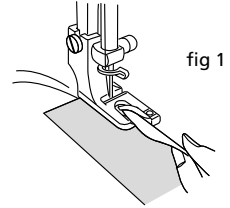

fig 1
- Place fabric edge under the presser foot (wrong side up) so that it is almost flush with the inside edge of the right toe (fig 1)